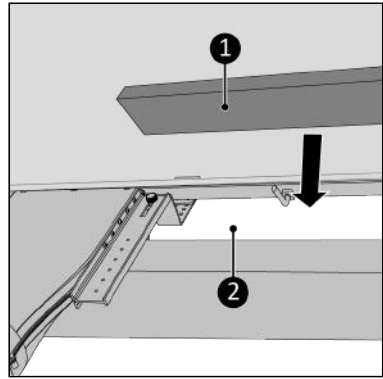

Figure 102.
15. Fill up the open spaces (Figure 102, pos. 1) with the delivered isolation foam (Figure 102, pos. 2), cut the foam if necessary\*.